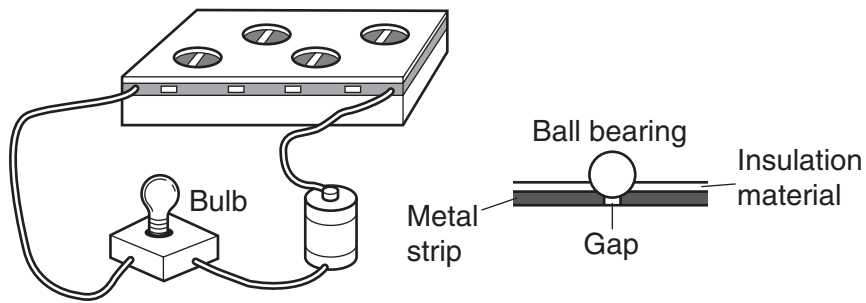

Fig. 12
- 4 Fig. 12 shows a design for an electronic toy.